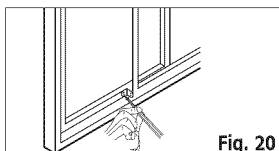

Fig. 20
7. To secure the sliding sash in place, attach right angle sash lock with 1/2" (12.7mm) screw as shown.(Fig.20)